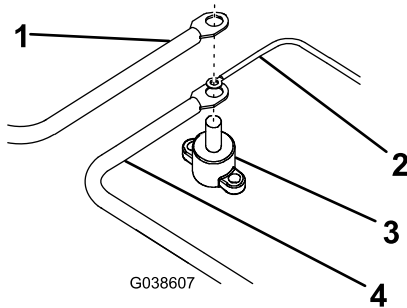

Figure 3
8. Attach the isolated ground stud under the hood of the vehicle (Figure 3).
9. Connect the free end of the black power/ground extension cable to the isolated ground stud (Figure 3).
10. Connect the brown wire to the isolated ground stud (Figure 3).